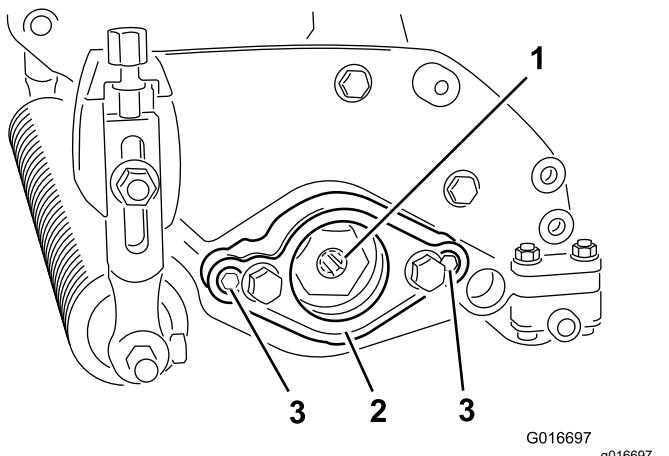

Figure 4
3. Remove the motor mount (Figure 4).
4. Apply grease to the inside diameter of the drive spline (Figure 4).